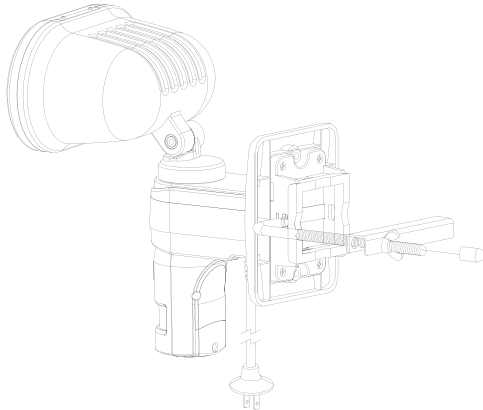

FIGURE 42
(2) Insert the L shaped holder through the two holes on the clamp. (FIGURE 42)